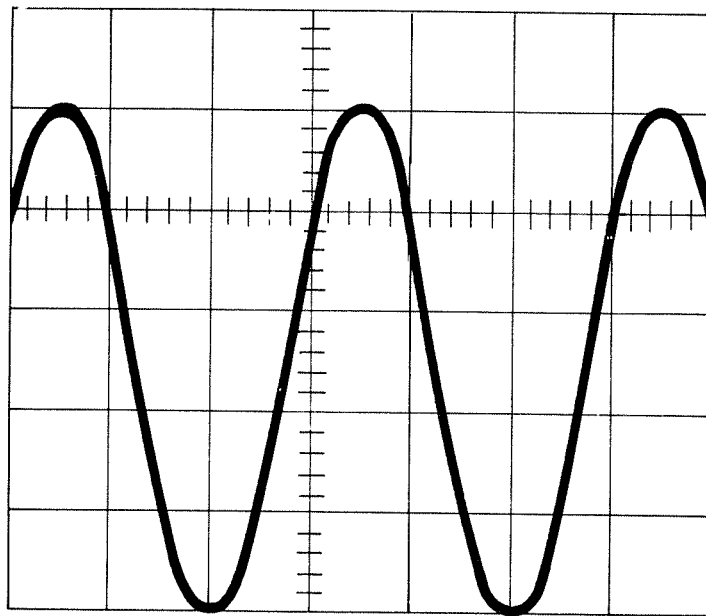

Figure 3-2. Proper Intersect of Positive and Negative Peaks
- k. Use variable knob so the positive and negative peaks intersect convenient grid lines (see figure 3-2). Convenient grid lines are any combination that results in the maximum shock pulse amplitude that can be contained within the area of the oscilloscope face.